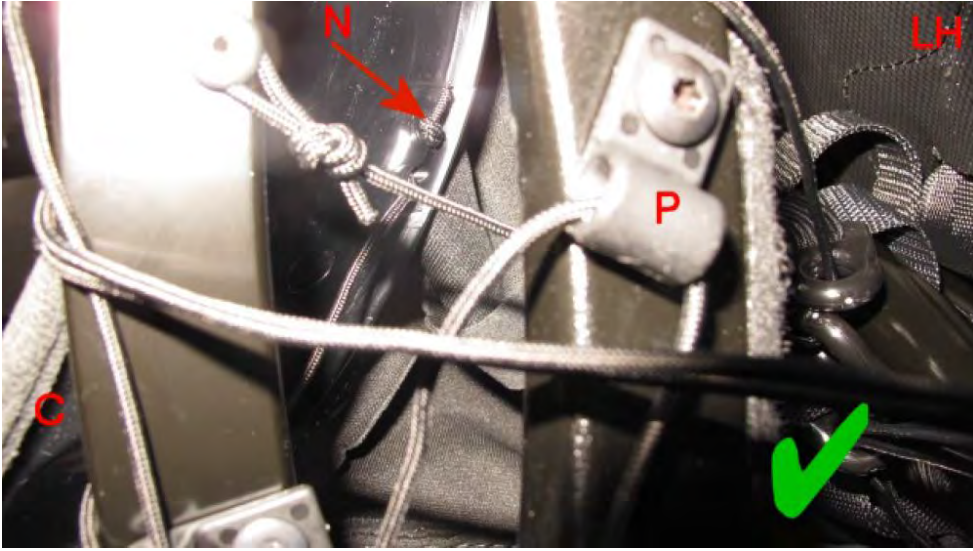

Figure 5a
Frame cord guide location Figure 5a shows the correct installation with single cord 1 running through cord guide (P)
Rectification: Referencing figure 5a undo knot (N) cord 2 from C post trim, slide new frame cord guide (P) into position and screw to frame.